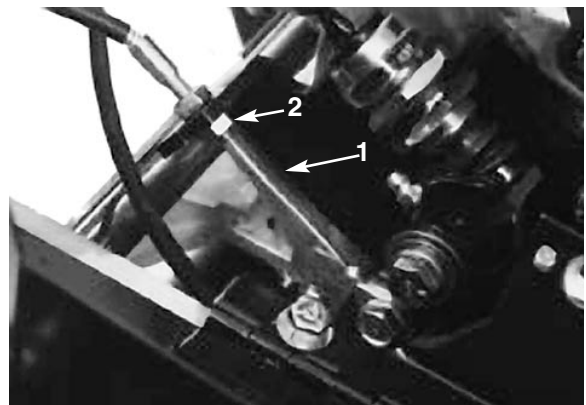

Figure 35
3. To increase cable tension, loosen the front cable jam nut and tighten back cable jam nut (Fig. 35) until a force of 4–7 Nm. is required to engage the traction control. Measure force at the control knob.
3. To increase cable tension, loosen the front cable jam nut and tighten back the cable jam nut (Fig. 35) until a force of 4–7 Nm. is required to engage the brake. Measure force at the lever knob. Do not *over* adjust, so brake band drags.